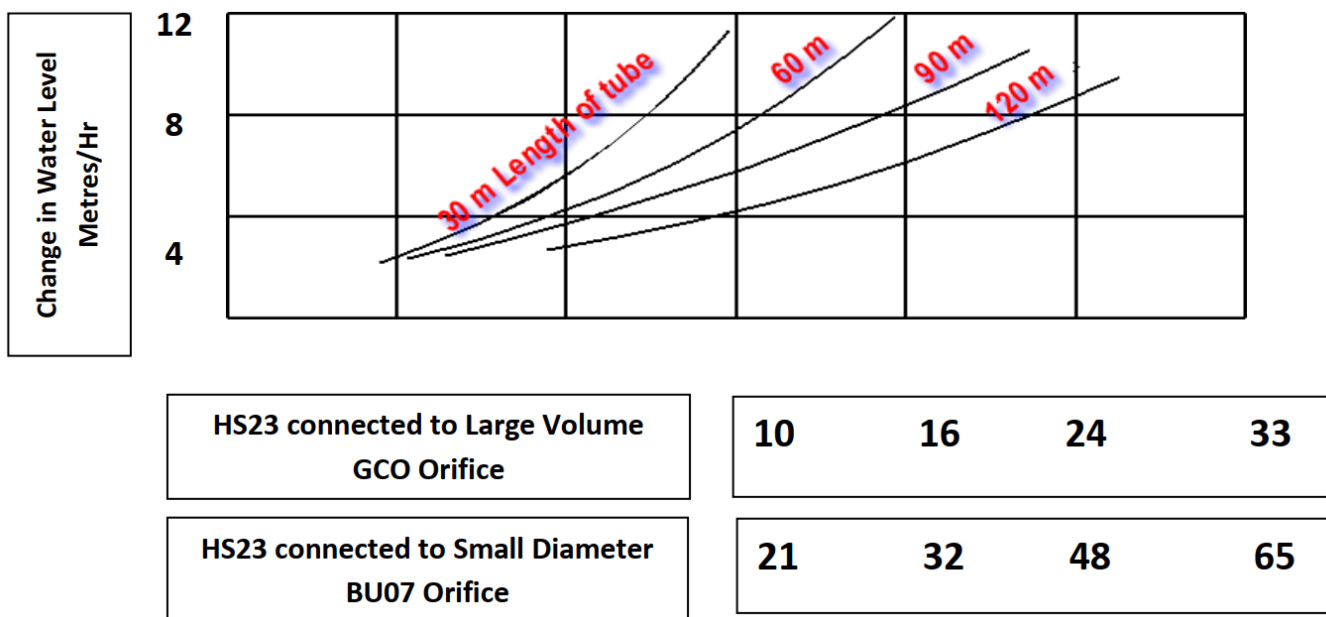

Figure 3
1. Close the instrument line valve (A), river line valves (B) and (E), and make sure the purge valve is completely closed.
7. Open the river line valve (B) or (E) (gas should bubble out of the orifice, this may take several minutes).
10. For recommended bubble rates (refer to figure 3).
14. Close the river line valves (B) and (E) and make sure the purge valve is completely closed.
17. Open valve (B) river line and purge river line by opening valve (C).
18. Close valve (C) and wait approximately 60 seconds for excess pressure to escape from the orifice.
19. Open instrument line valve (A).